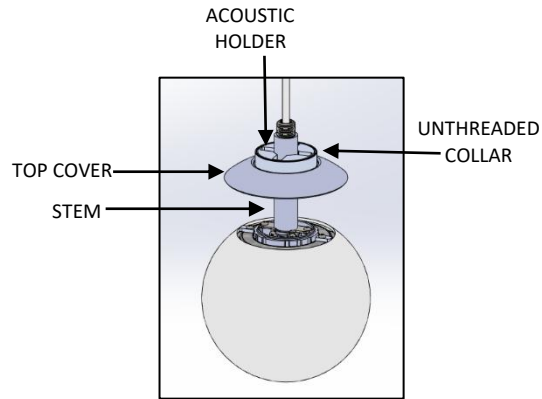

FIG. 40 – ACOUSTIC HOLDER INSTALLATION
32. Make sure that ACRYLIC SHADE is properly seated onto the INSERT COLLAR and then slide the TOP COVER UNTHREADED COLLAR and the bottom ACOUSTIC HOLDER back down as shown below in FIG. 40.